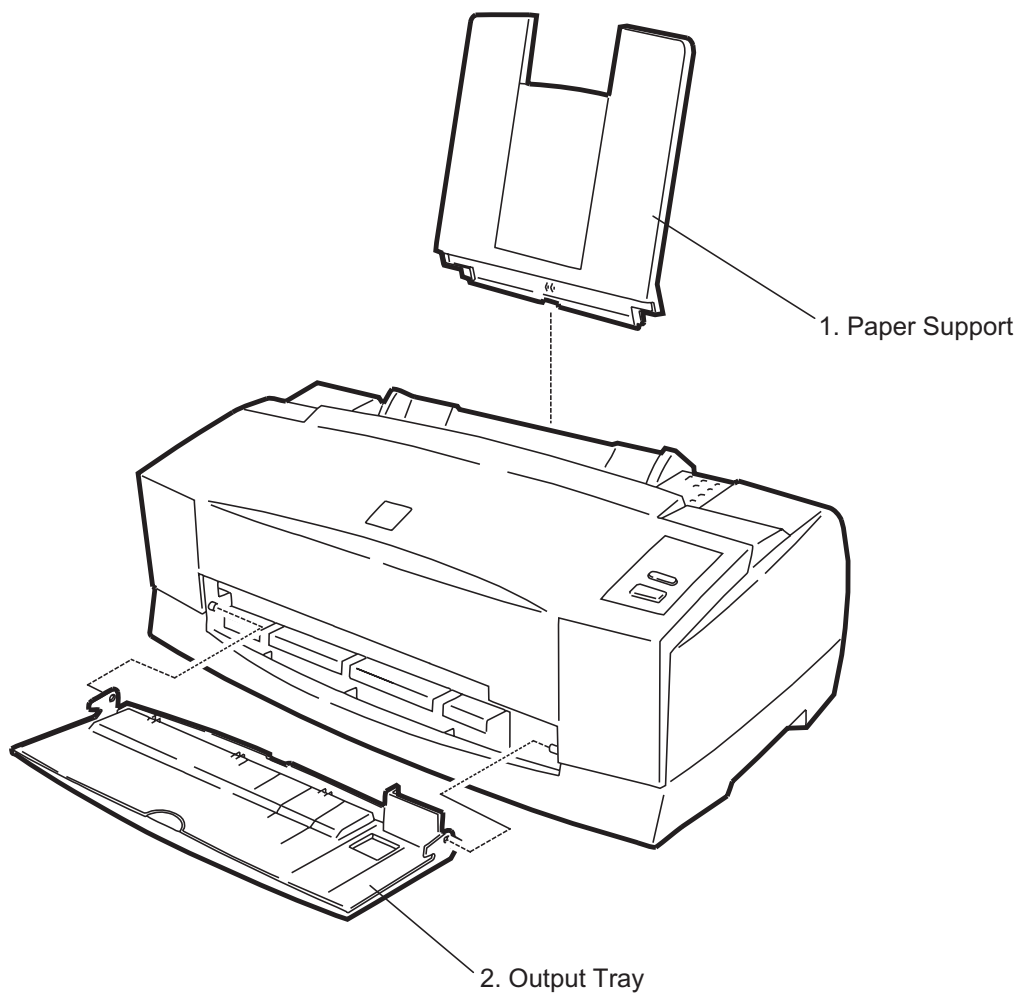

Figure 3-2. Before Beginning Disassembly
1. Remove the parts shown in Figure 3-2.